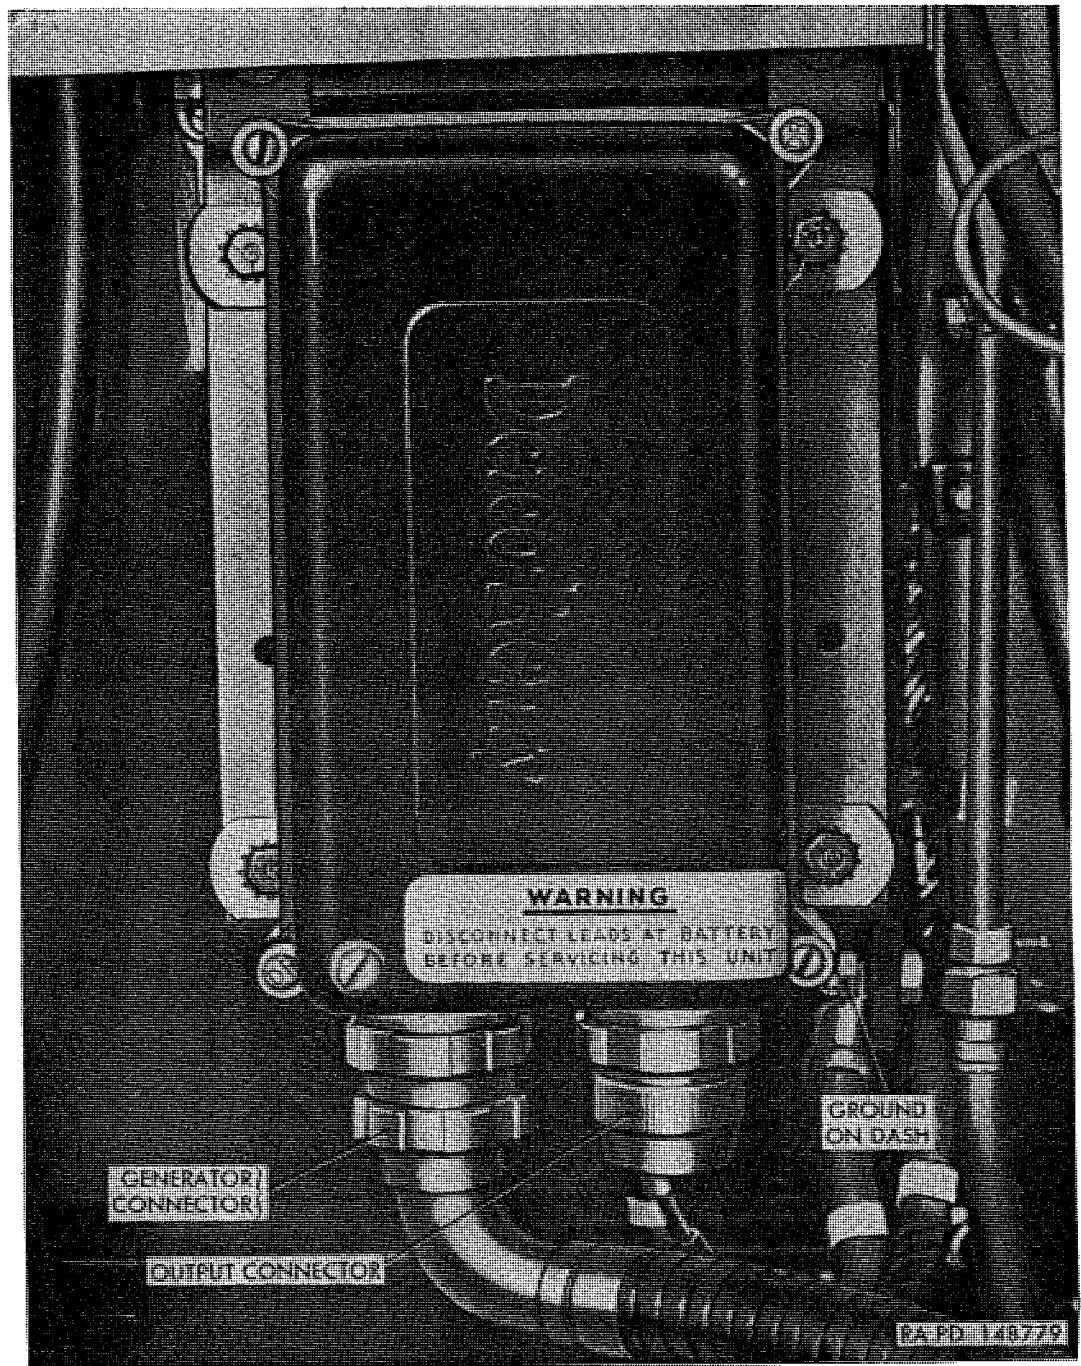

Figure 153. Generator-regulator installed.
c. *Generator-Regulator* (fig. 153). Generator-regulator is mounted on engine side of cowl below battery at right side of engine. Generator-regulator contains an actuating relay, a circuit breaker relay, a current regulator, and a voltage regulator. An overload circuit breaker is incorporated in the current regulator. The actuating relay and circuit breaker relay are designed to work together to close the circuit from the generator to the battery when generator voltage is sufficient to charge the battery, and to open the circuit when generator slows or stops. The current regulator is a current limiting device which prevents generator output from exceeding its specified maximum; the overload circuit breaker is a safety device provided to open the circuit in the event the circuit breaker relay fails to open. The voltage regulator is a voltage limiting device which prevents the system voltage from exceeding a specified maximum, thus protecting the battery from overcharging and protecting other electrical units from damage which would be caused by excessive voltage. Wiring connections at the regulator are made through two plug and receptacle-type connectors.
(fig. 153)